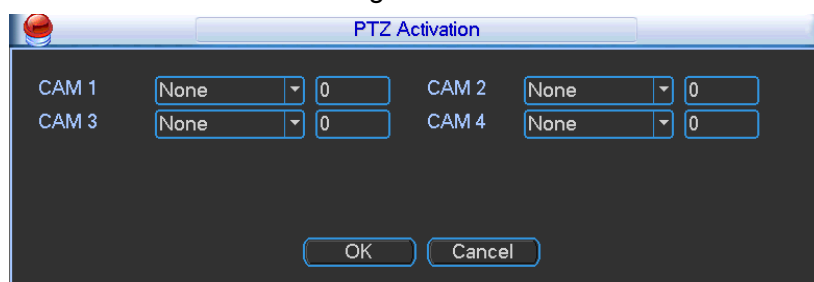

Figure 4-65
- PTZ activation: Here you can set PTZ movement when an alarm occurs. System can go to a preset, when there is an alarm. Click “select” button, you can see an interface is shown as in Figure 4-65.